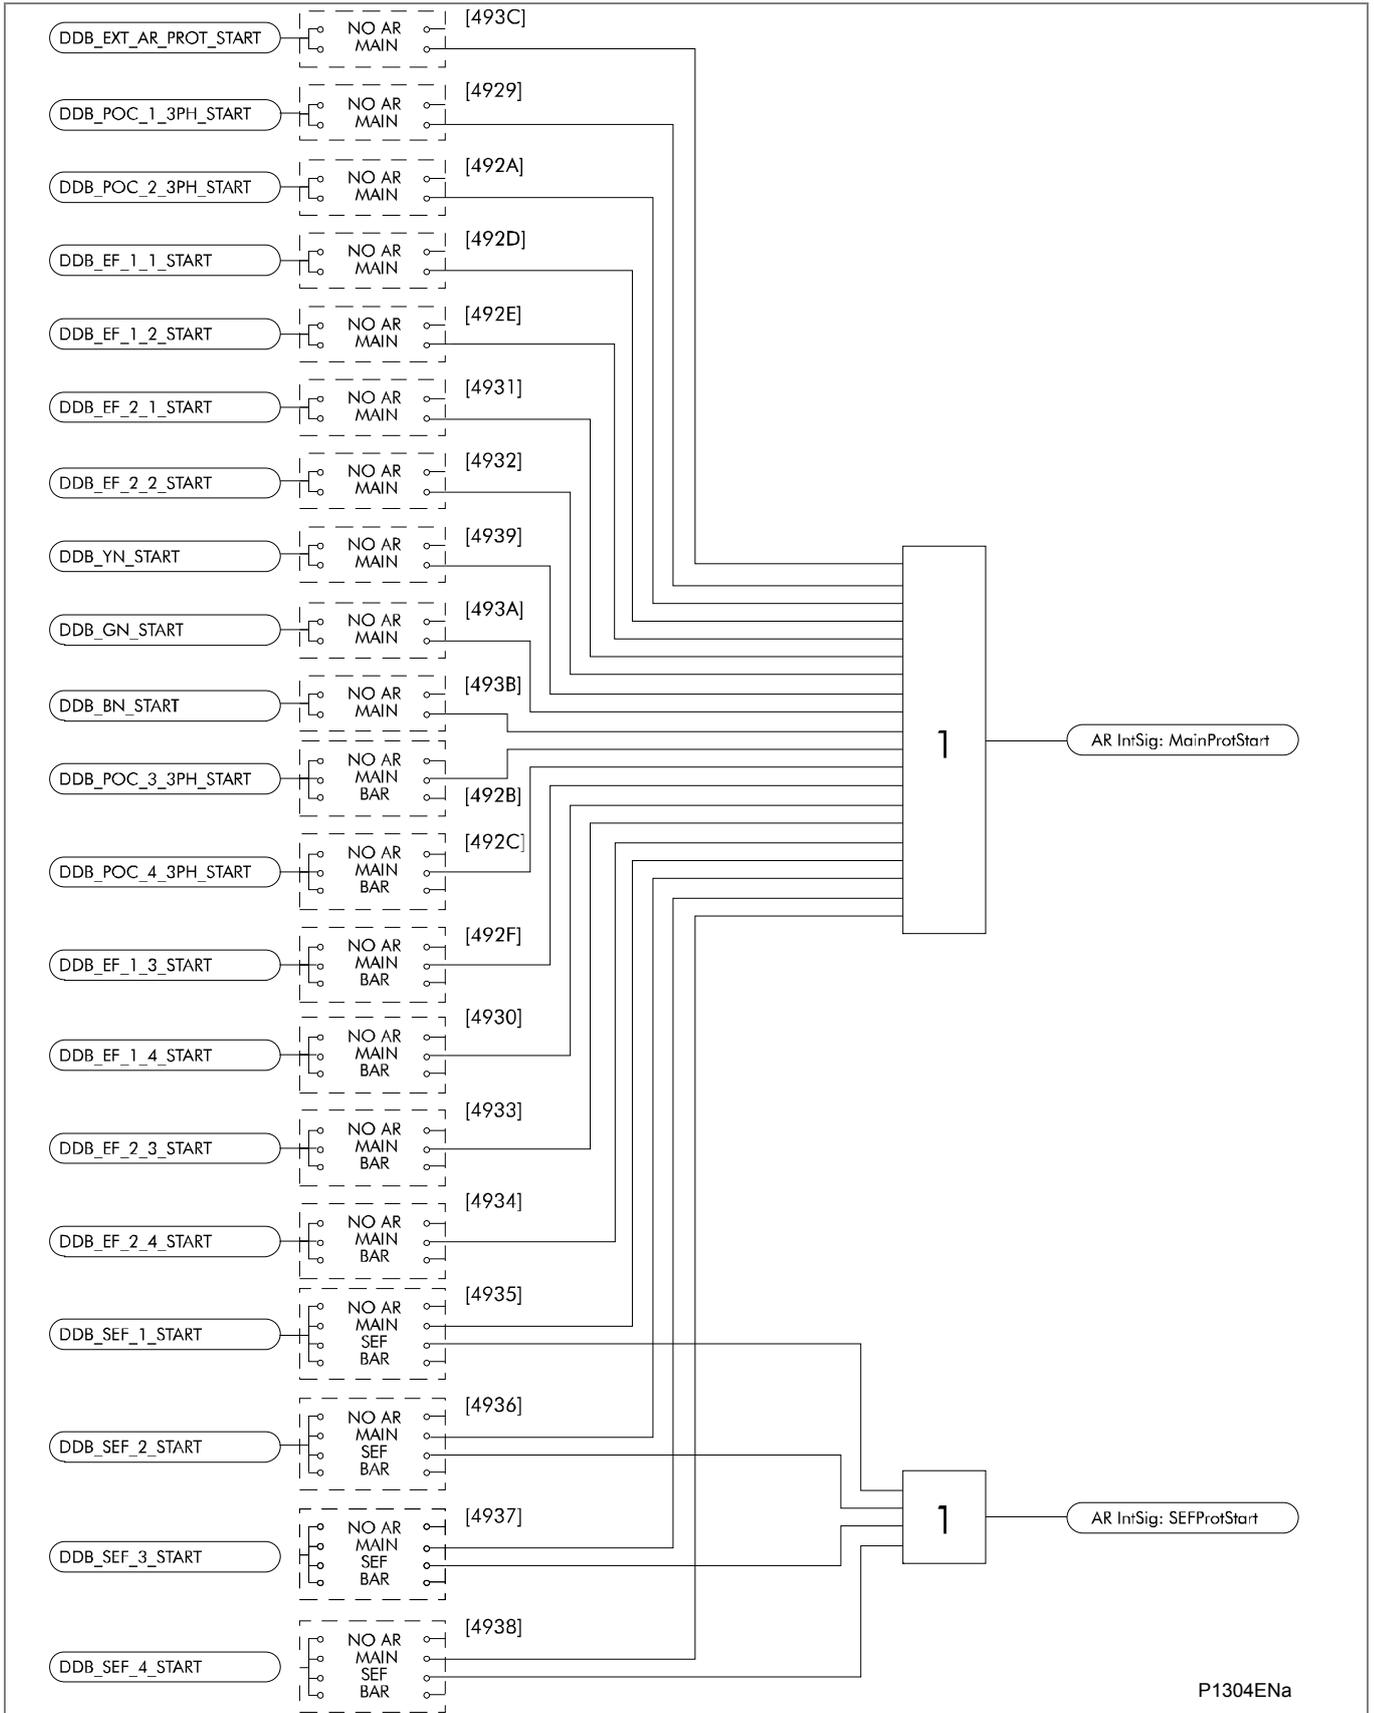
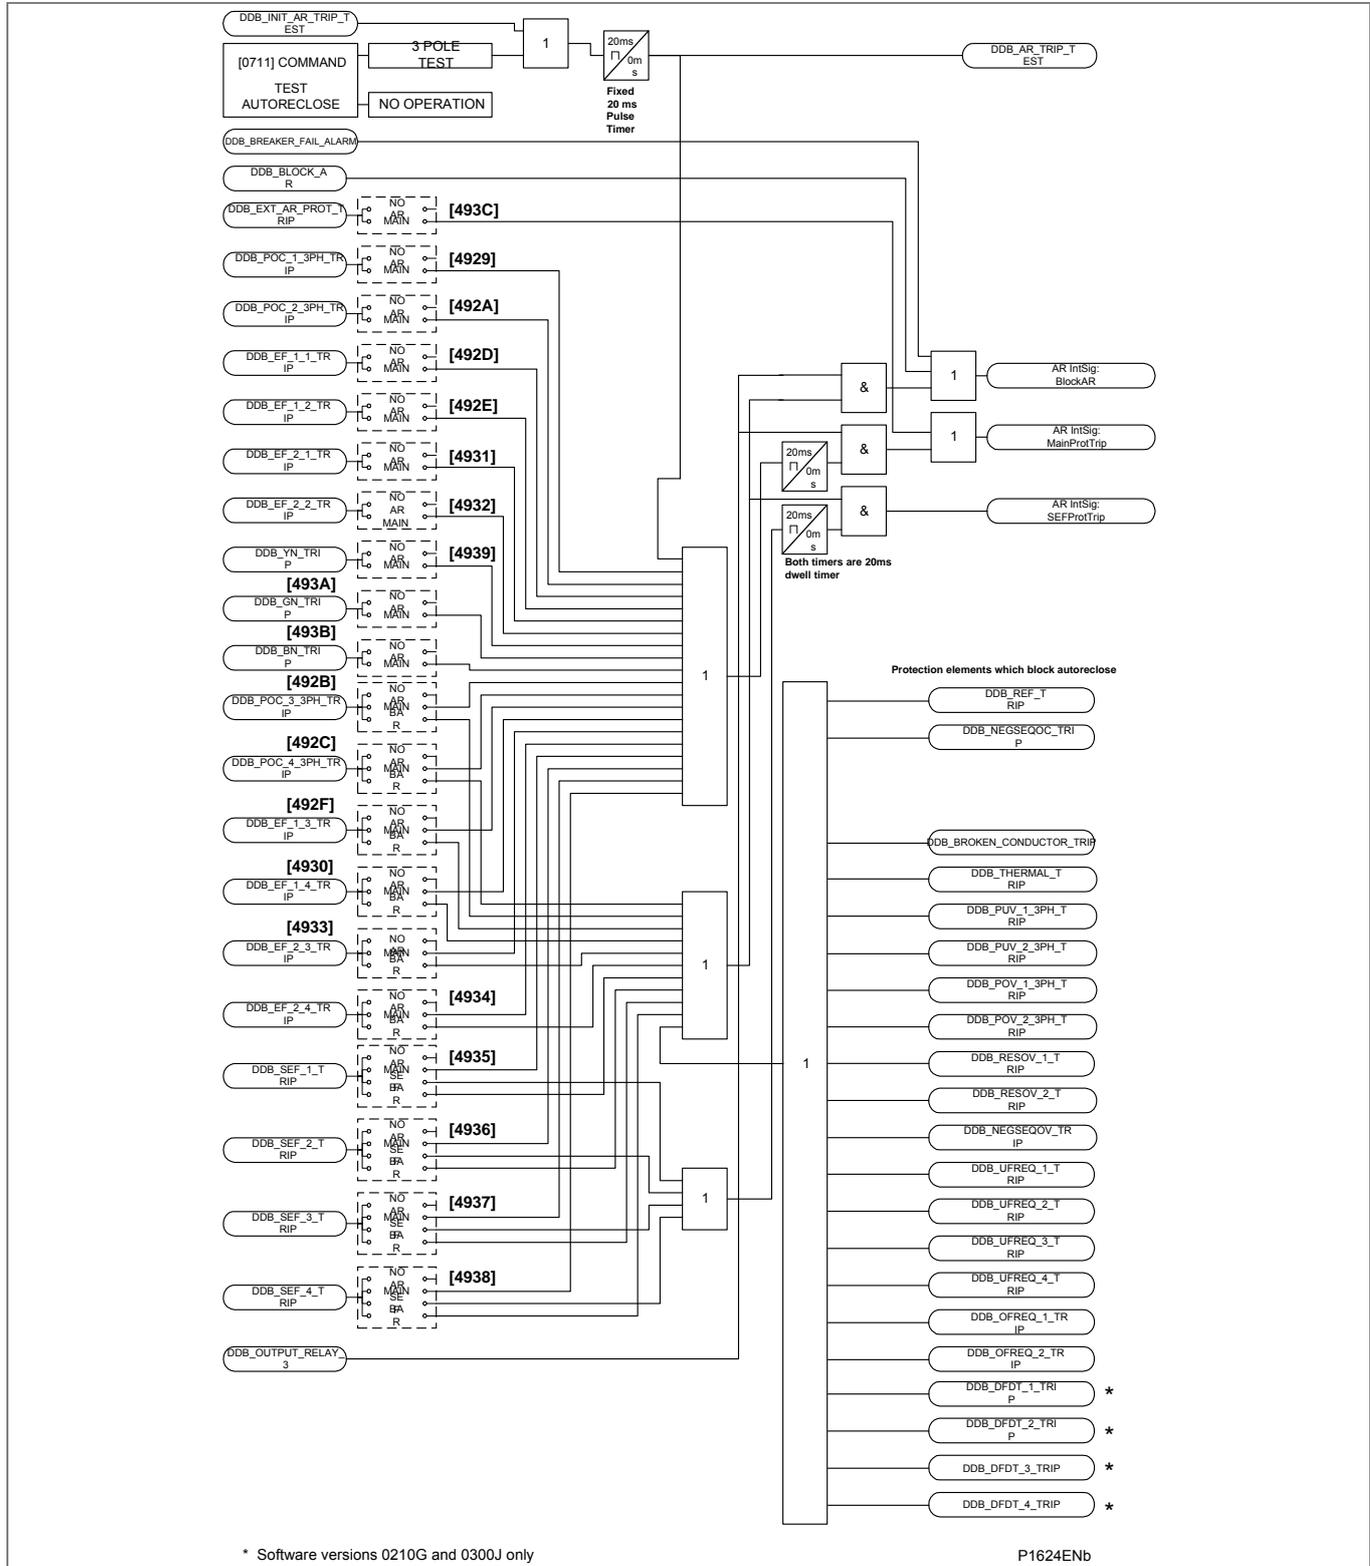

Figure 59 - "Protection start" signals
Figure 60 - Auto-reclose blocking logic
- Figure 59 illustrates how the start signal is generated and Figure 60, demonstrates how the protection trip signal is produced. Figure 60 also shows how the block auto-reclose is performed together with external AR initiation. Auto-reclose blocking is discussed in detail in section 2.1.2.8 - AR Lockout.